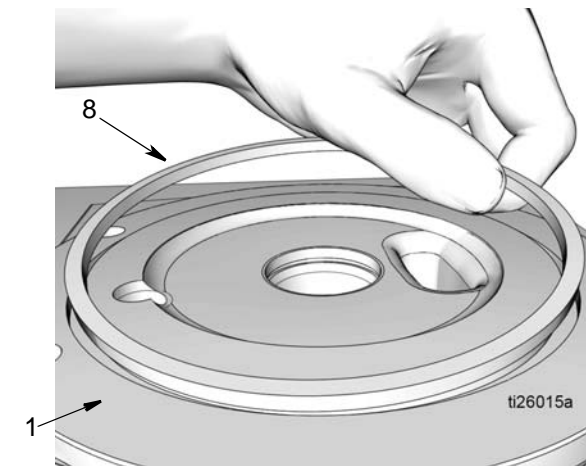

FIG. 46
7. Apply a thin layer of grease to square o-ring (8). Install square o-ring (8) in groove in the pump base (1) as shown in FIG. 46.